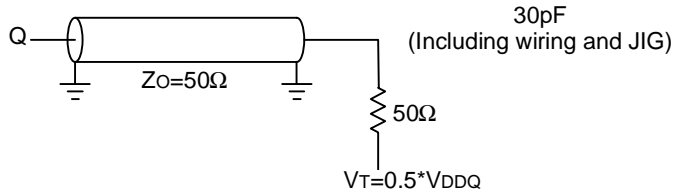

Fig.1 Output load
(1) MEASUREMENT CONDITION
- Output load Fig.1
Note26.Test conditions is specified with the output loading shown in Fig.1 unless otherwise noted.